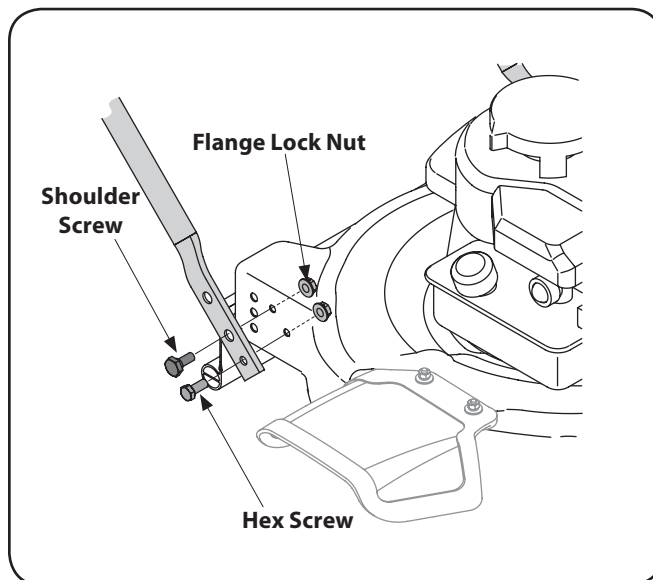

Figure 3-2
3. Secure the lower handle to the deck using the hex screws, shoulder screws, and flange lock nuts. See Fig. 3-2.